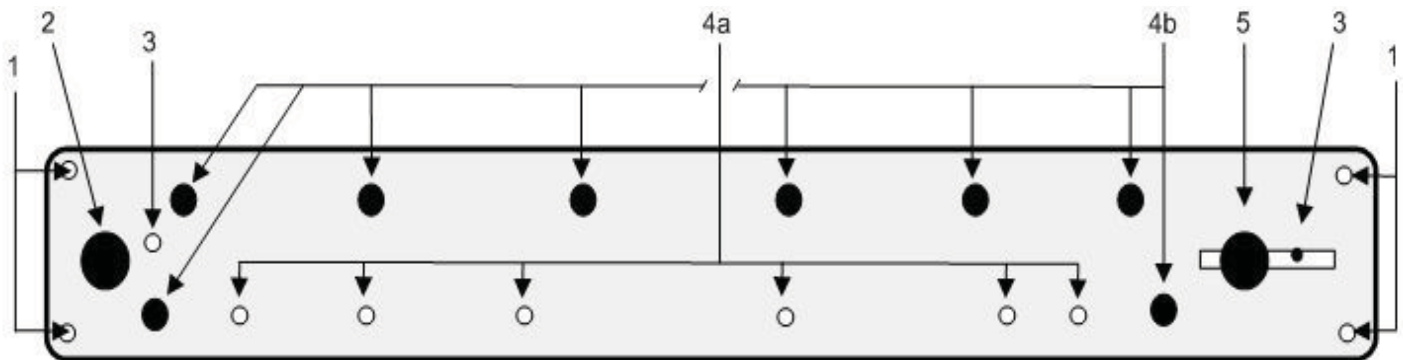

Fig. 2a — Conveyor Side View (blank side)
4. Ensure the conveyor's installed location provides sufficient siderail access (blank siderail, per Fig. 2a) for future cleaning and maintenance.
3. Locate the belt tension lock screws (see figs. 2a and 2b, # 5) and loosen -- do not remove -- using a 3/16" hex key.
5. Using a 5/32" hex key, remove the maintenance access screws (Fig. 2a and 2b, #4b).